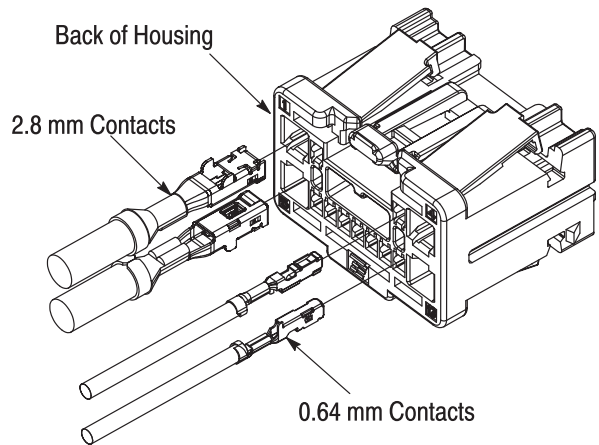

Figure 3
2. The terminated contact must be aligned with the contact cavity at the wire end of the connector and oriented as shown. The 2.8 mm contacts orientation lances face the secondary lock and the 0.64 mm contacts orientation lance face away from the secondary lock. See Figure 3. Terminals will only easily go into cavity in one orientation.